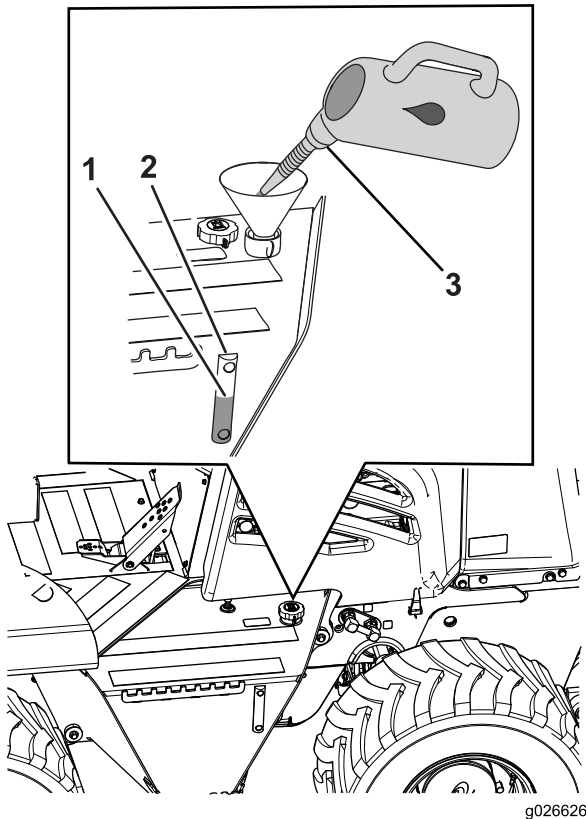

Figure 91
- Fill the hydraulic-fluid reservoir with the specified hydraulic fluid until the fluid level is at the midpoint of the sight gauge (Figure 91).
- Install the fill cap/breather (Figure 91).